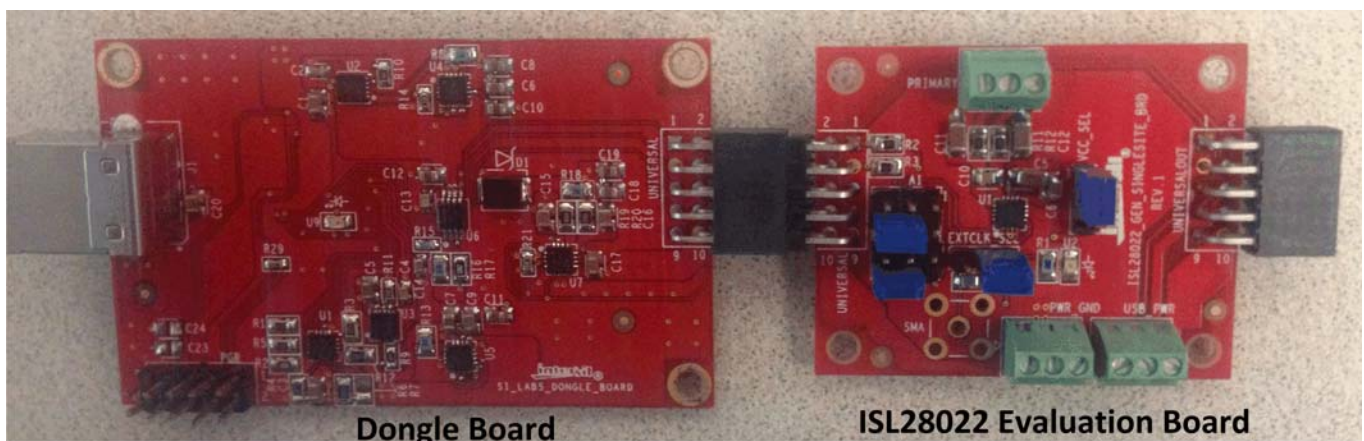

FIGURE 6. DONGLE UNCONNECTED TO THE ISL28022 BOARD
- Connect the ISL28022 board to the dongle as shown in Figure 6. Enable communication between the evaluation board and the computer by pressing the “Connect to Device” button at the bottom right of the software window. If the connection is successful, the text on the button will be red and read “Disconnect Device” otherwise, the button text will not change. Upon successful connection between the PC and the dongle board, the evaluation software searches specific resistors to determine the board that is connected to dongle.
- To start collecting data, press the “Start Data Collecting” button located to the left of the “Connect to Device” button at the bottom of the screen. Once pressed, the color of the text and verbiage of the button will change to “Stop Data Collecting”. The default state of the software reads each DPM for shunt and bus voltages. To change the read settings of the DPM, toggle the check box label next to each numerical readout. The backlight of the display will toggle between yellow and gray. A backlight of yellow means a channel is enabled. A change in the functionality of the DPM will change the mode value for the respective channel. The mode of each DPM is displayed in the lower left hand corner of each channel’s display. Figure 6 represents a zoomed in view of a single DPM interface.